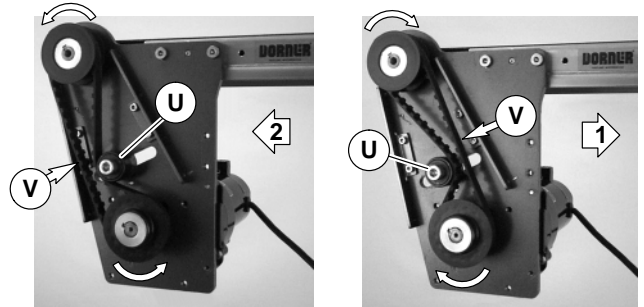

Figure 7
7. Depending on direction of conveyor belt travel (1 or 2 of Figure 7), position timing belt tensioner (U) as shown. Tension timing belt to obtain 1/8" (3 mm) deflection for 1 lb (456 grams) of force at timing belt mid-point (V). Tighten tensioner screw to 106 in-lb (12 Nm).
3. Depending on direction of conveyor belt travel (1 or 2 of Figure 7), position timing belt tensioner (U) as shown. Tension timing belt to obtain 1/8" (3 mm) deflection for 1 lb (456 grams) of force at timing belt mid-point (V). Tighten tensioner screw to 106 in-lb (12 Nm).
5. Depending on direction of conveyor belt travel (1 or 2 of Figure 7), position timing belt tensioner (U) as shown. Tension timing belt to obtain 1/8" (3 mm) deflection for 1 lb (456 grams) of force at timing belt mid-point (V). Tighten tensioner screw to 106 in-lb (12 Nm).